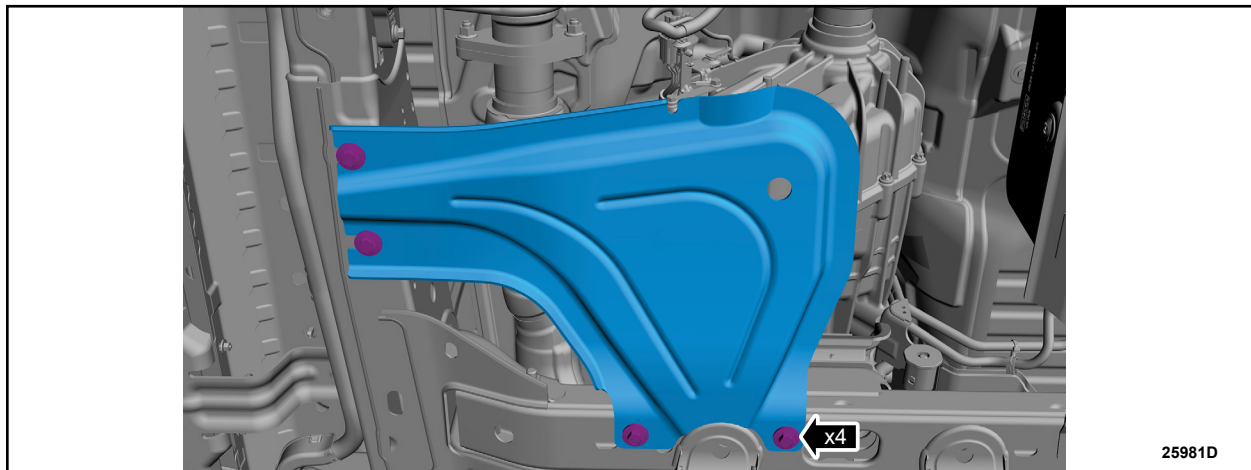

FIGURE 8
7. If equipped, install the skid plate and the skid plate bolts. See Figure 8.